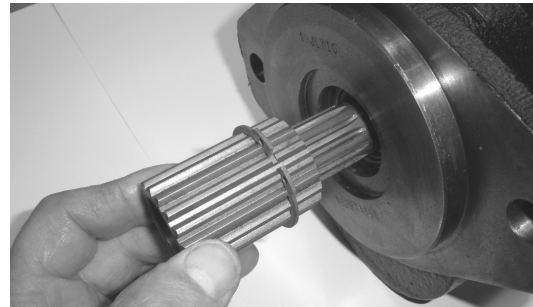

**Figure 4—Remove the two fasteners shown to disconnect the hydraulic pump from the inverter.**
1. Remove the two fasteners that secure the pump to the inverter. See **Figure 4**.